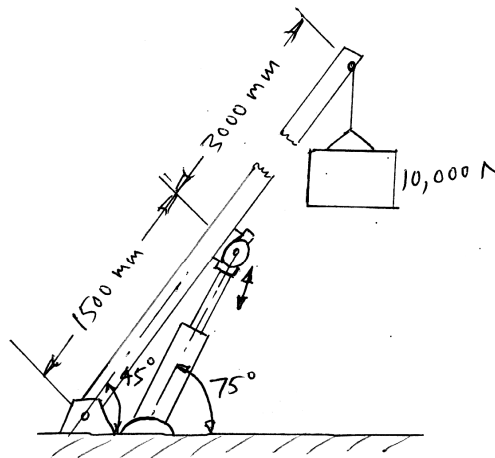

Figure 2(b)
- b. For the crane shown in Fig. 2(b) determine the hydraulic cylinder force required to lift a load of 10,000 N. What class of lever system is this?